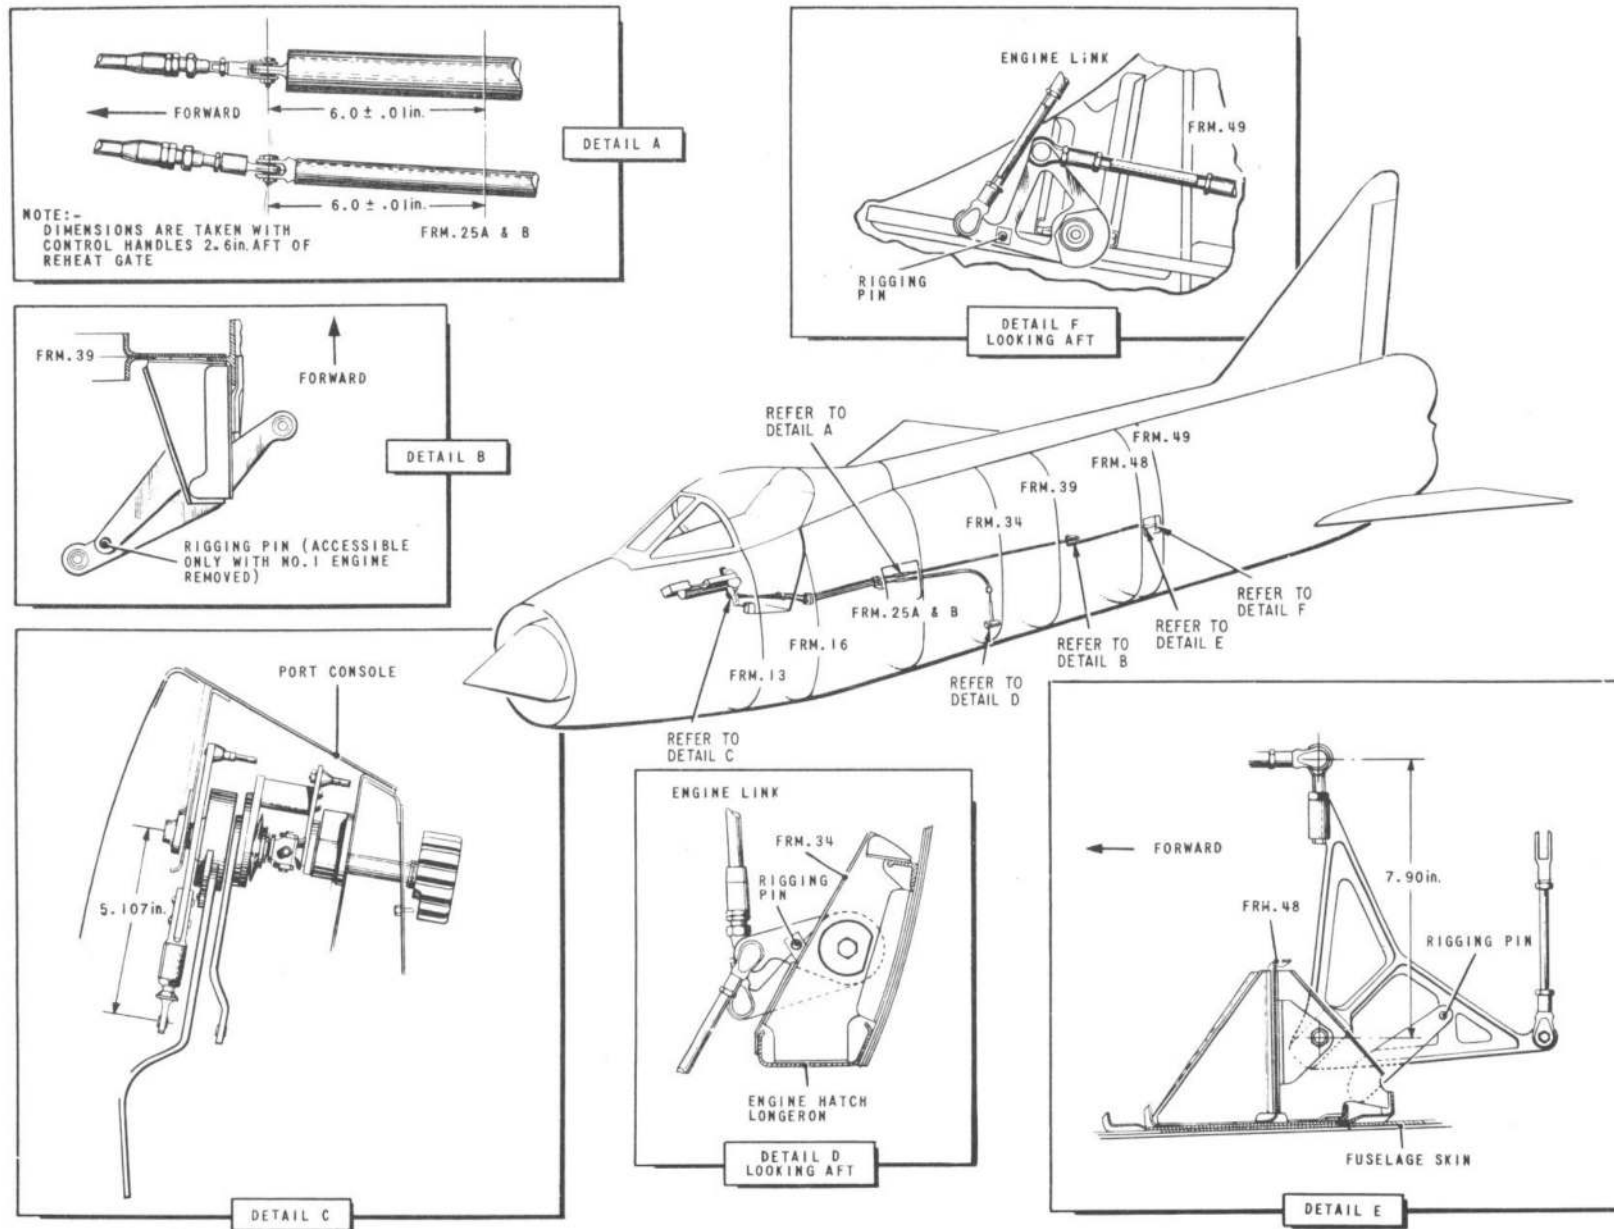

FIG. 7. ENGINE CONTROLS RIGGING (2)
(11) At frame 29 (port side, access panel 45P), check that No.1 engine throttle control rod bearing sleeve is set as in fig.7, detail G. If necessary, reset the bearing sleeve and relock it, using a new grubscrew, afterwards locking the grubscrew by centre popping.
Engine controls rigging - airframe linkage (fig. 7)